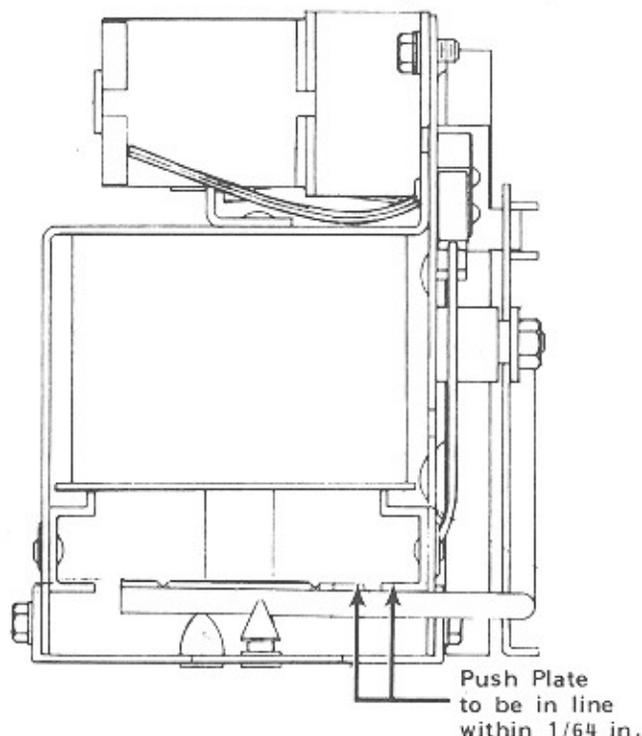

Figure 4-1. Pusher Plate Adjustment
3. Align the pusher plate to the guide rails by loosening the three motor bracket screws and moving the motor assembly. The pusher plate and the guide must be positioned within 1/64 inch as shown in Figure 4-1.